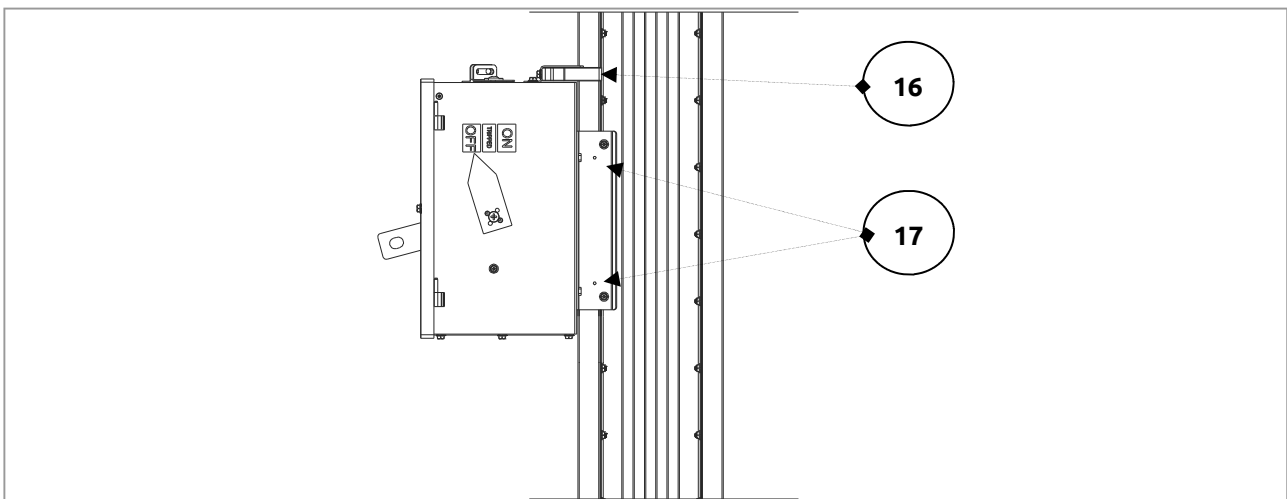

Figure 21.2
16. Tighten the screw on cleat to ensure the box is properly mounted (Figure 21.2).
17. Install the Self Drilling (SD) screw to finish the plug in unit installation process on both side (Use hand tighten force)